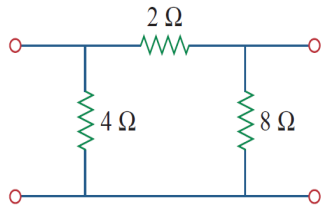

Fig.8
b) Obtain the z & y parameters for the network shown in Fig 8 [10M]